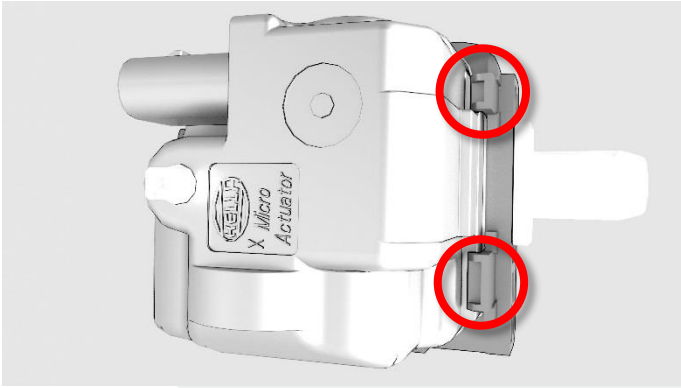

Figure 1
2. Release the 3 clips that secure the latch actuator carrier to the latch actuator (Figures 1 and 2).